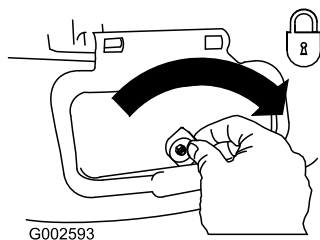

**Figure 29**
3. Install the side discharge chute and close the door onto the chute (Figure 29).